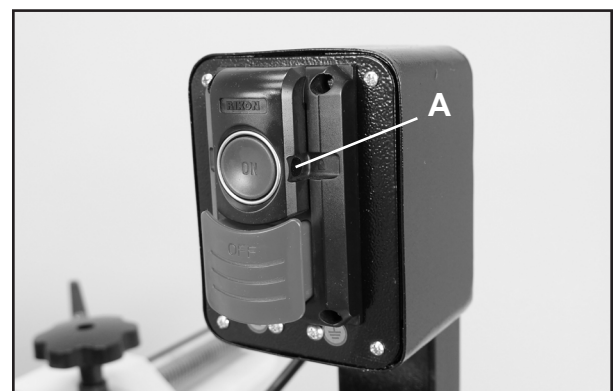

FIG. 16
1. The 20-108H 8" Jointer is equipped with a safety switch with a "lockout" feature to prevent unintended use. A hole (A-FIG 16) is located behind the "ON" button to receive a locking device (not included).